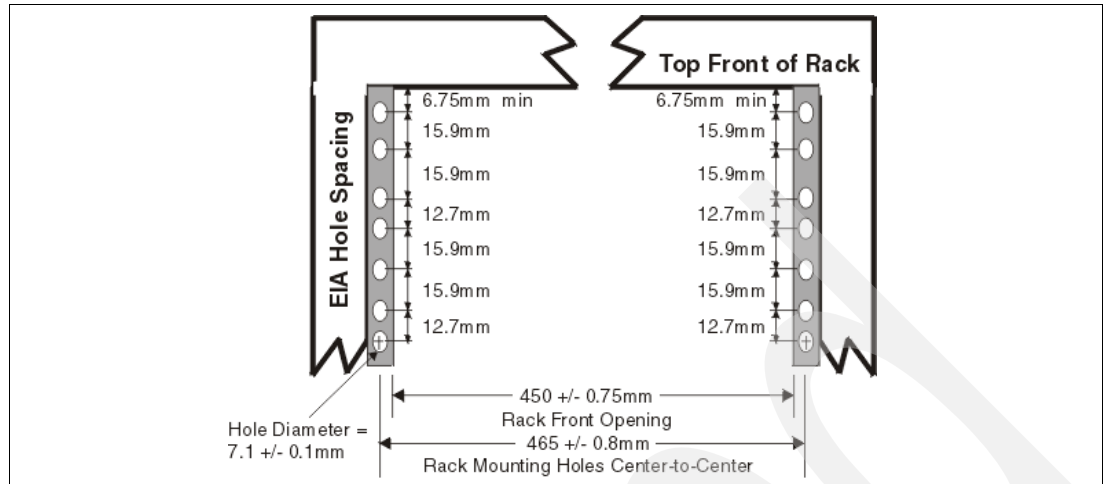
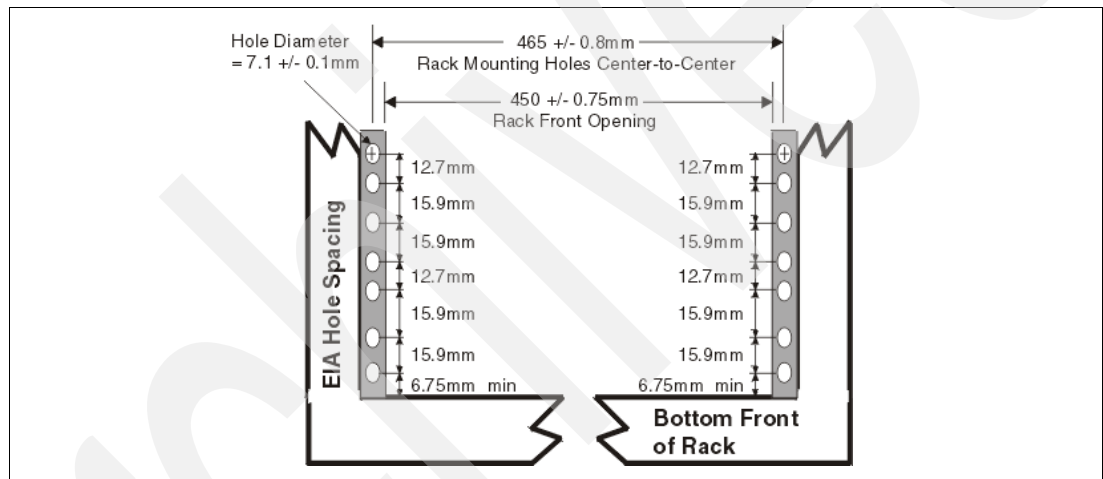

Figure 1-4 Rack specification dimensions, top front view
Figure 1-5 Rack specification dimensions, bottom front view
- The vertical distance between the mounting holes must consist of sets of three holes spaced (from bottom to top) 15.9 mm (0.625 in.), 15.9 mm (0.625 in.), and 12.67 mm (0.5 in.) on center, making each three-hole set of vertical hole spacing 44.45 mm (1.75 in.) apart on center. Rail-mounting holes must be 7.1 mm (0.28 in.) + 0.1 mm (0.004 in.) in diameter. See Figure 1-4 and Figure 1-5 for the top and bottom front specification dimensions.